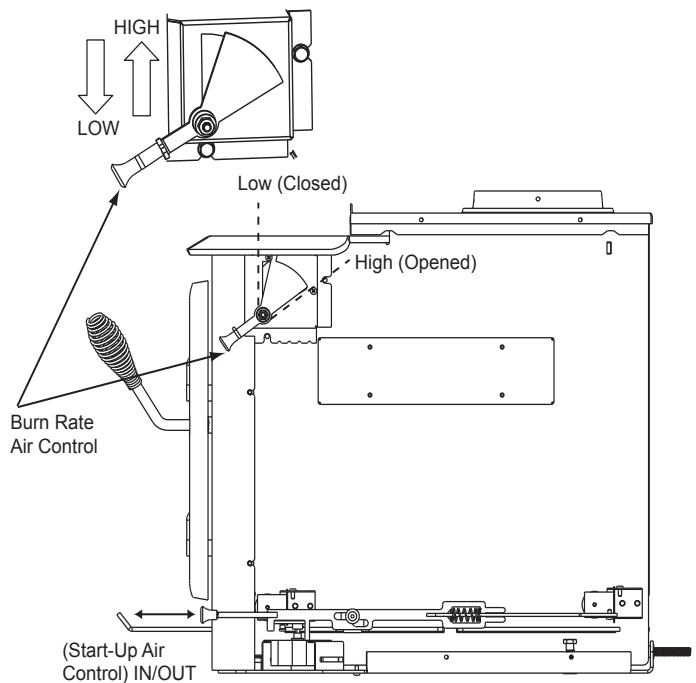

Figure 14.1 - Activating Timer
- When the control is raised all the way up it is on the High setting and when pushed all the down it is on the Low setting (**Figure 14.1 on page 14**).